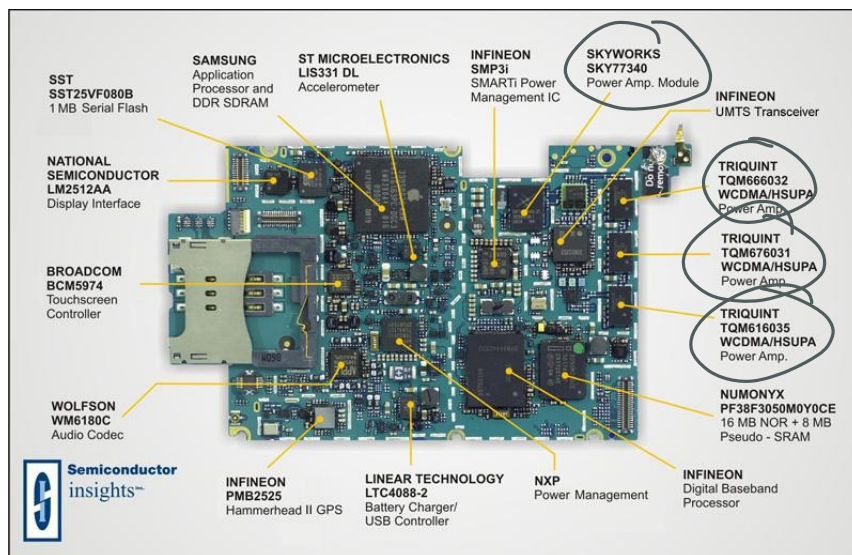

Figure 17: Iphone under the hood.
4. Figure 17 shows various components in an iPhone. Identify some analog components in Fig. 17